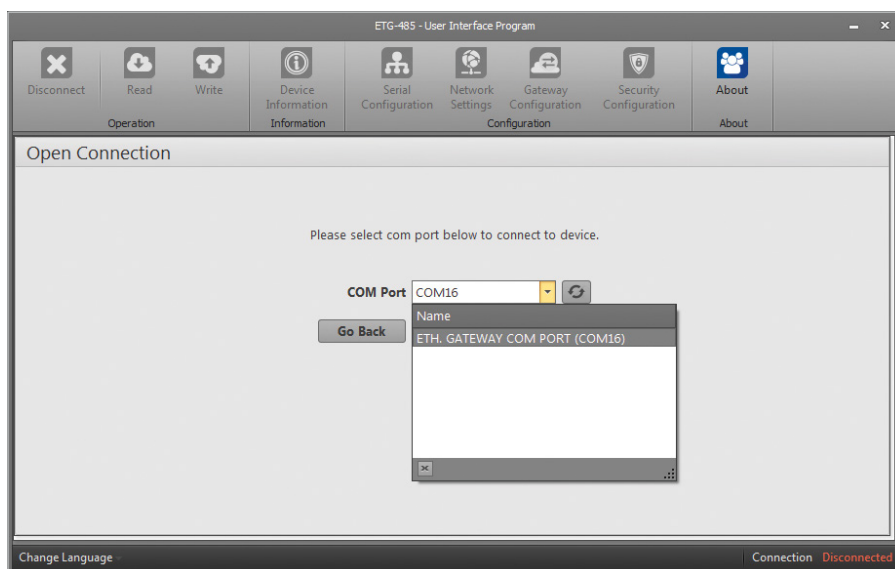

Figure 3-2 COM Port Selection
If ETG-485 is connected to the PC via USB cable, virtual COM port to which ETG-485 connects will be listed in the software as in Figure 3-2. If the correct port doesn't appear on the list, the list can be updated by clicking the “Refresh” button.
**NOTE:** If the virtual serial port to which ETG-485 connects is not known, it can be selected as shown in Figure 3-2. After the correct port is selected, software connection to ETG-485 is ensured by pressing “Connect” button.